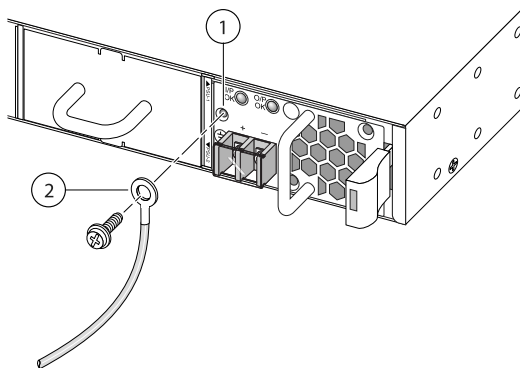

Figure 356: Connecting the Ground Wire (Model 10934A)
- 2 Identify the grounding point on the front panel of the power supply (see Figure 356: Connecting the Ground Wire \(Model 10934A\) on page 374).